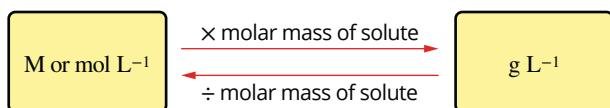

FIGURE 14.2.2 The relationship for conversions between mol L⁻¹ and g L⁻¹.
Figure 14.2.2 shows a useful relationship for conversion between the two concentration units most often used in volumetric analysis, mol L⁻¹ (M) and g L⁻¹.